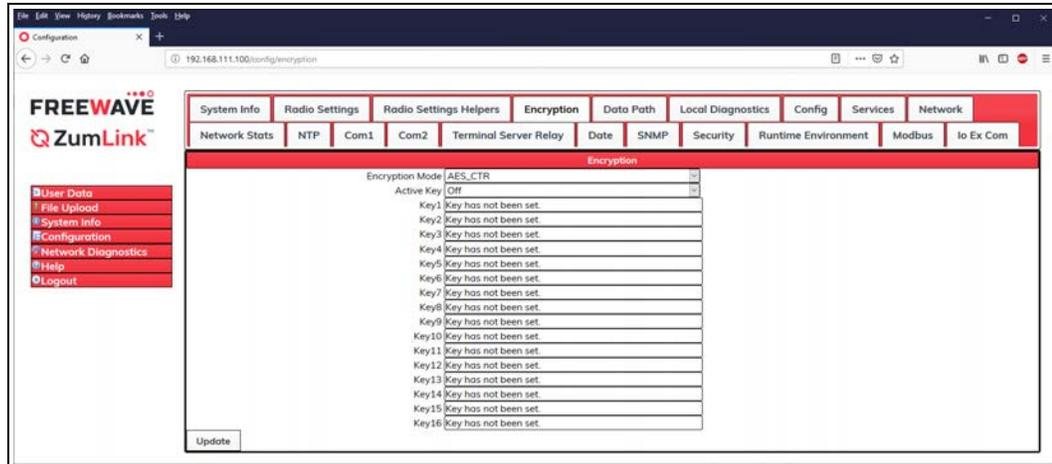

Figure 139: Encryption window
6. Click the **Encryption** tab to access the **Encryption** parameters. Figure 139